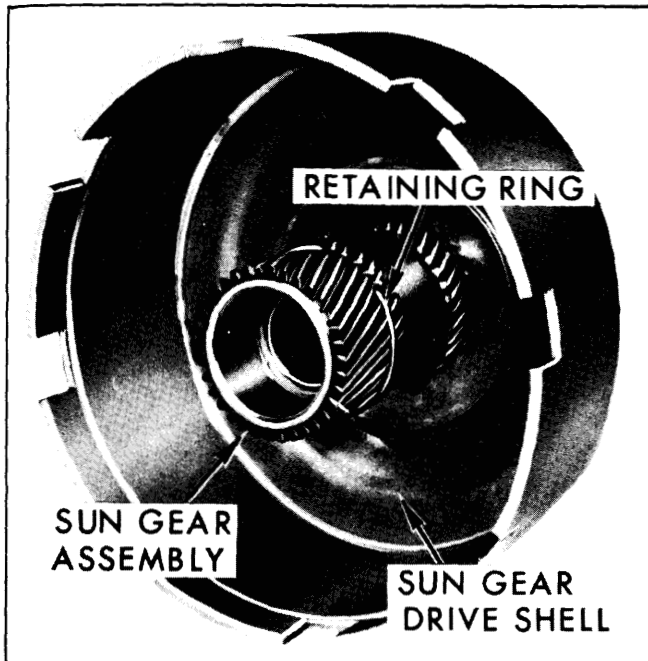

Fig. 7-90—Removing Sun Gear to Drive Shell Front Steel Thrust Washer
4. Remove sun gear to drive shell front retaining ring. (Fig. 7-90) Discard retaining ring.